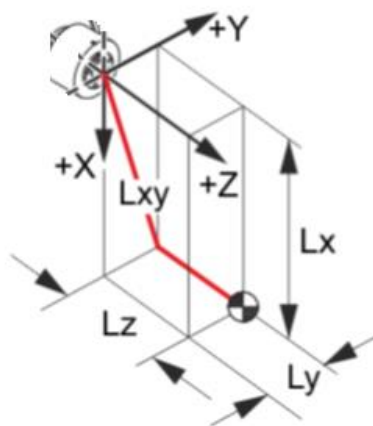

Fig. 2.40 Payload Position Reference
3. The setting of activated payload is shown in Fig. 2.40, with a "✓" mark in front of the activated load.